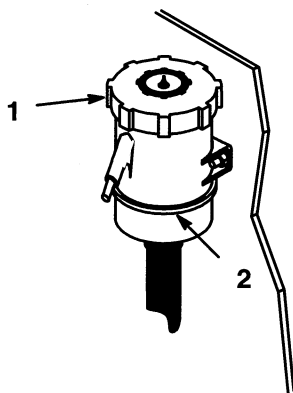

Figure 31
3. Clean around the fluid reservoir (Fig. 31) so level is clearly visible and so dirt cannot fall into the reservoir if fluid is added.
4. When transaxle is cold add oil to "Full Cold" line on reservoir (Fig. 31).